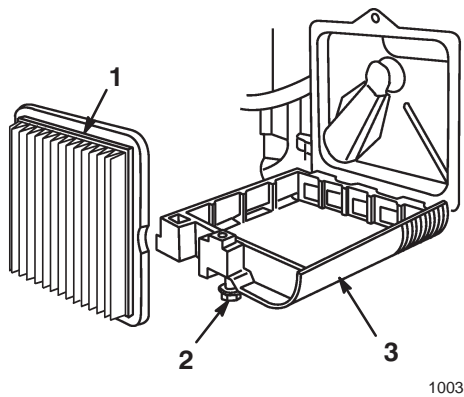

Figure 18
- Loosen the screw that secures the air filter cover to the engine (Fig. 18).
- Tilt the air cleaner cover down and clean the cover thoroughly (Fig. 18).
- Remove and discard the paper air cleaner filter (Fig. 18).